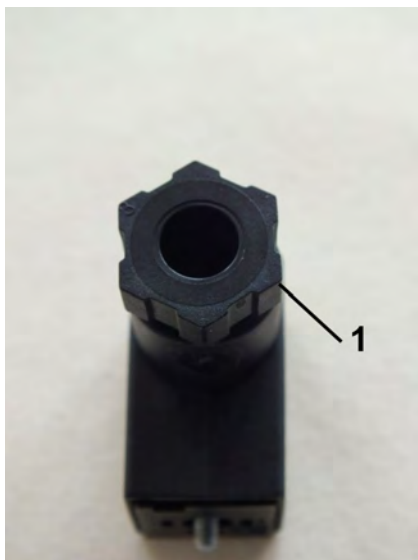

Fig. 25: Disconnect the screw connection
4. ➤ Disconnect the screw connection (Fig. 25/1) by turning it to the left
8. ➤ Tighten the screw connection (Fig. 25/1) by turning it to the right.